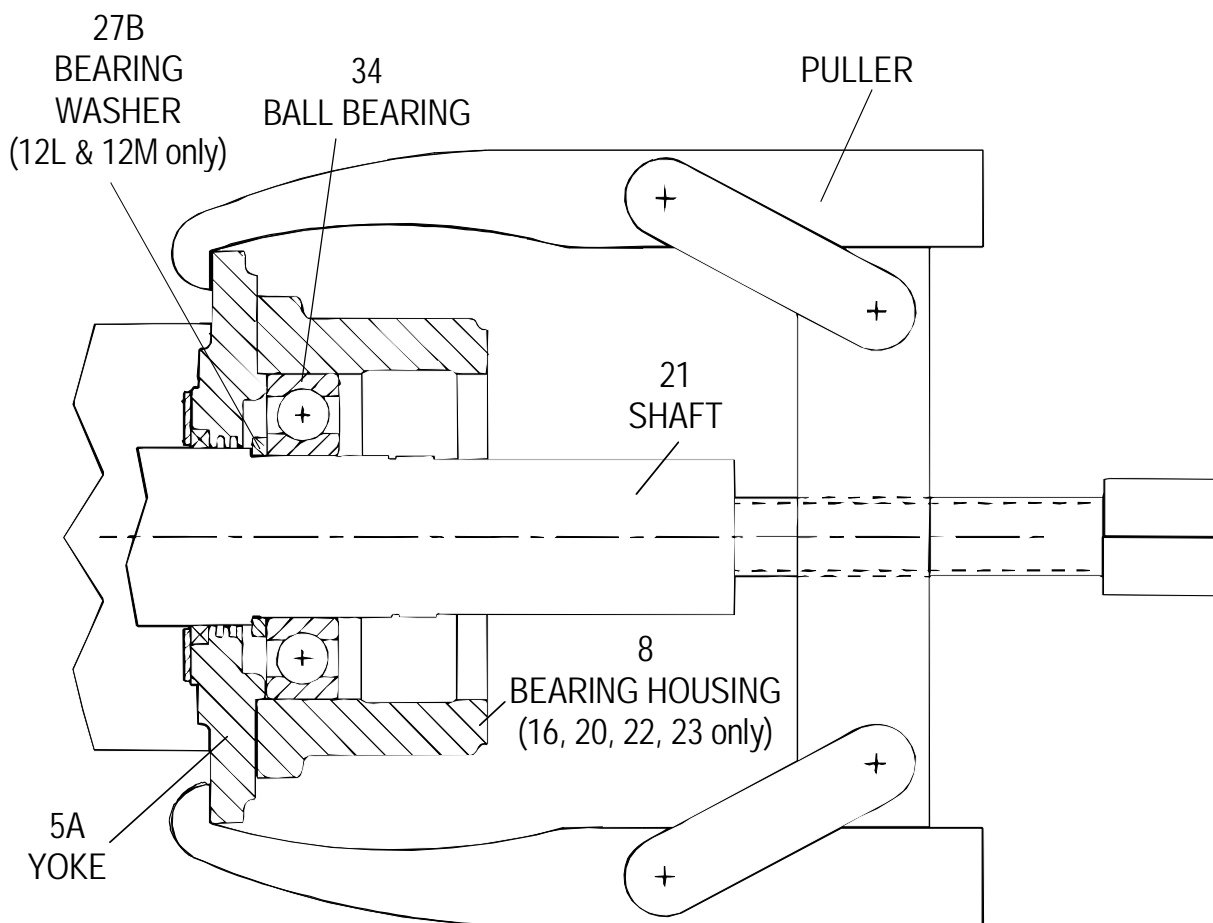

Figure L-7 Bearing and Bearing Washer Removal
- a. Drain oil from Yoke (5B) via drain (71).
- b. Remove governor (313) according to the procedure specified in Section L.6.
- d. Disconnect connecting rod (MT197) at trip latch (MT194). Unbolt mounting housing (315) and remove it.
- e. Remove oil ring (112), retaining ring (223), and oil ring sleeve (262B) from shaft (21).
- f. Remove gland housing leak-off pipe and bolts holding the yoke (5B) to the cover (2).
- g. Remove bearing (34) and bearing washer (27B) from shaft using a puller, as shown in Figure L-7. The yoke itself will be removed in this procedure. Exercise caution in removing the yoke to ensure that the seal ring is not damaged by the shaft shoulders.
- a. Drain oil from bearing housing (10) via drain (71).
- d. Disconnect connecting rod (MT197) at trip latch (MT194). Unbolt mounting housing (315) from the bearing housing and remove it.
- e. Remove retaining ring (223), and slide oil ring sleeve (262B) off the shaft (21), bringing oil ring (112) with it. When the oil ring clears the retaining lug in the bearing housing, it can be lifted out. Unbolt the bearing housing and slide it off the ball bearing.
- g. Remove bearing (34) from the shaft using a puller, as shown in Figure L-7. The yoke itself will be removed in this procedure. Exercise caution in removing the yoke to ensure that the seal ring (40) is not damaged by the shaft shoulders.
- b. Drain oil from Yoke (5A) via drain (71).
- c. Remove bearing housing enclosure (9).
- d. Bend up prongs on lockwasher (113) and unscrew shaft end nut (23). Remove the lockwasher, oil ring (112), and oil ring sleeve (262A).
- e. Remove gland housing leak-off pipe and cap screws holding the yoke (5A) to the casing (1)
- f. Remove yoke (5A) from the shaft, using the wheel puller tool shown in Figure L-7, bringing the bearing washer (27A) and the bearing (33) ahead of it. Exercise caution in removing the bearing housing enclosure and yoke to ensure that seal rings (40) are not damaged by the shaft shoulders.
- a. Drain oil from bearing housing (8) via drain (71).
- b. Remove bearing housing enclosure (9) and oil ring (112).
- c. Remove cap screws holding bearing housing (8) and slide it off the outer race of bearing (33). Bend up prongs on lockwasher (113) and unscrew shaft end nut (23), which has a right-hand thread. Remove the lockwasher and oil ring sleeve (262A), bringing oil ring (112) with it.
- d. Remove gland housing leak-off pipe and cap screws holding the yoke (5A) to the casing (1).
- e. Remove yoke (5A) from the shaft, using the wheel puller tool shown in Figure L-7, bringing the bearing washer (27A) and the bearing (33) ahead of it on sizes -22L and -23L. Exercise caution in removing the bearing housing enclosure and yoke to ensure that seal rings (40) are not damaged by the shaft shoulders.